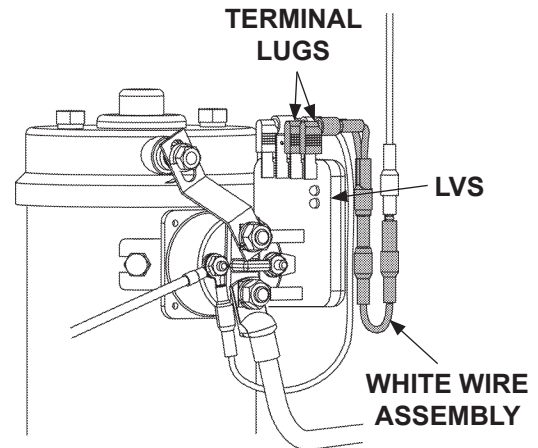

FIG. 4-1
6. Connect white wire assembly to terminals on top of LVS (**FIG. 4-1**).